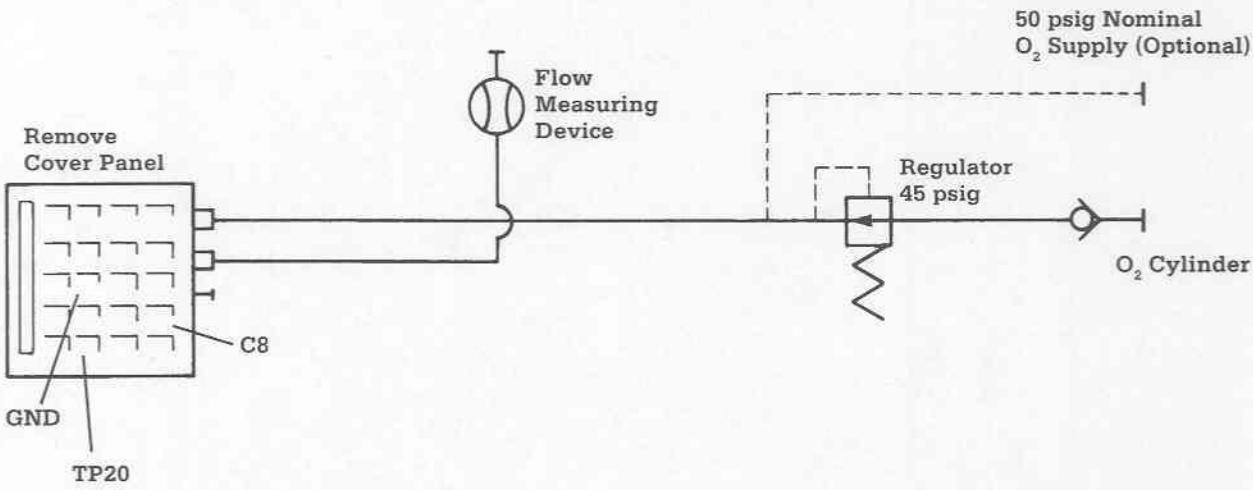

Figure 7-8
4. Connect the port labeled connect To Bellows Ass'y Inlet port at the back of the ventilator to a flow measuring device (Figure 7-8).